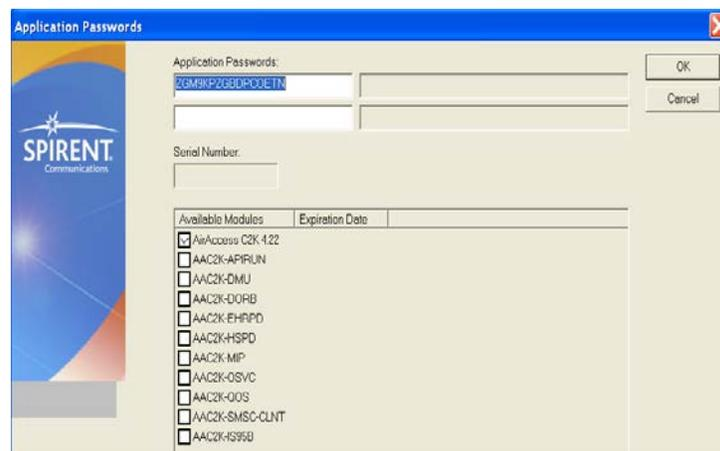

Figure 2-7: Entering the AirAccess C2K Password
2. Select **Help>Enter Application Password**. The *Application Password* window displays, as shown in Figure 2-7.